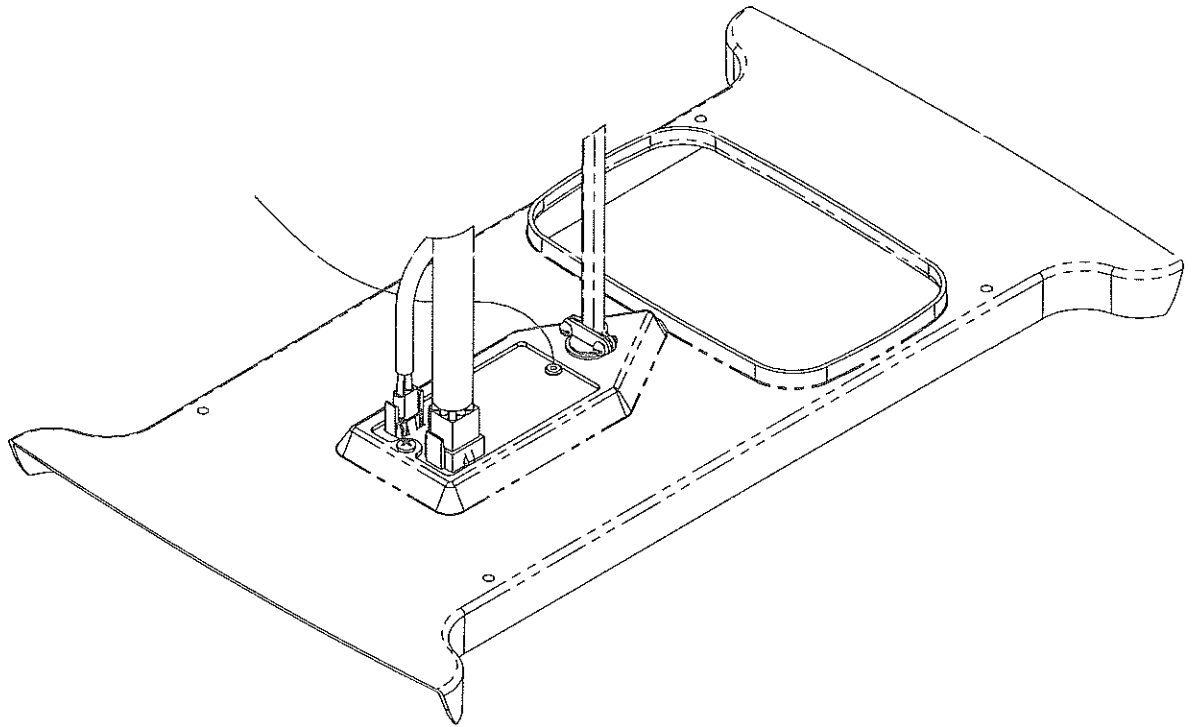

FIGURE 7
- C. Raise the ceiling assembly chute and insert the the supply wiring through the cable clamp and into the wiring box so that 4-6" of supply conductor is inside the box. Secure the cable clamp over the supply wire sheath so that no movement is possible (See Figure 7).
- F. Plug the air conditioner electrical conduit into the 9 position receptacle as shown in Figure 7.
- G. If the optional heater accessory package is being installed, remove the cover from the 2 position receptacle and plug the heater cord into receptacle as shown in Figure 7.